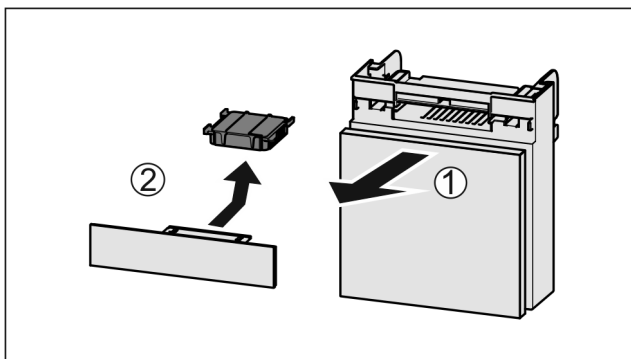

Fig. 102
- ▶ Pull out the compartment Fig. 102 (1).
- ▶ Remove the carbon filter Fig. 102 (2).